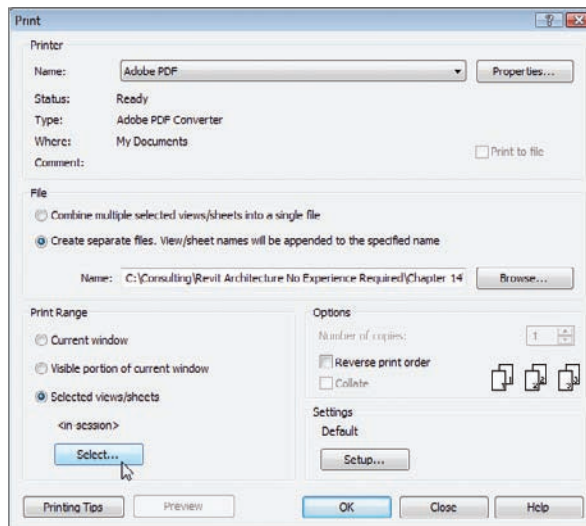

FIGURE 14.33 Choosing the options to print the drawings
5. Click the Select button, as shown at the bottom left in Figure 14.33.